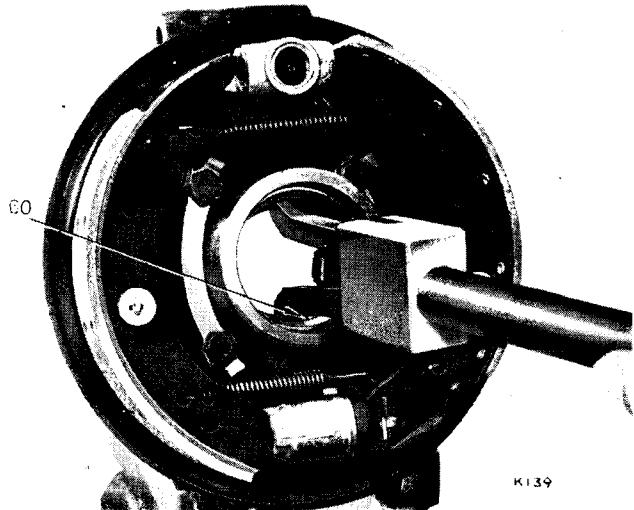

Fig. 65. Removing inner bearing cups
3. Remove inner bearing cup (60) by using tool S 123A or a soft metal drift (Fig. 65).